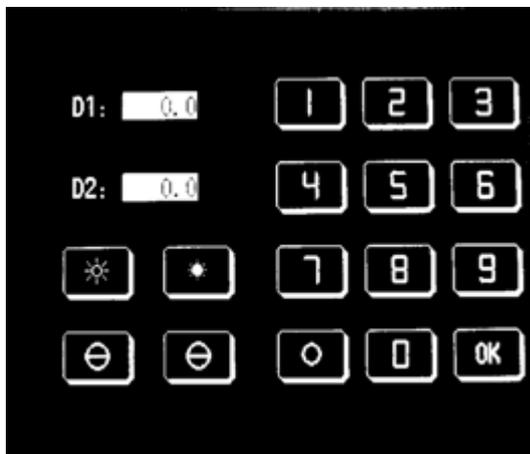

Figure 5-5 Message
- After the test completes, the system displays as Figure 5-5 and objective 40x return to the working position.